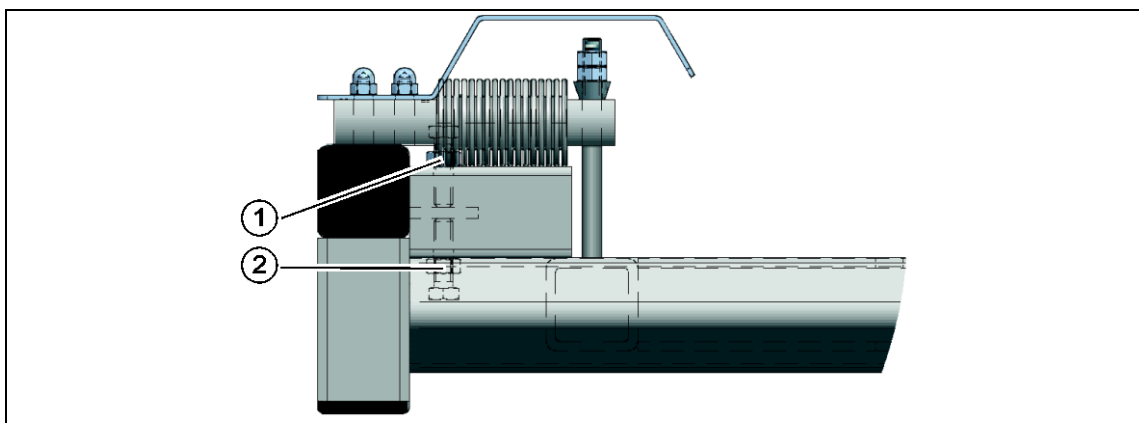

Fig. 9: Remove the transport protection
1. Dismantle the lower transport protection screw (2) (s. Fig. 9, p. 13) and store it for a later transport.
2. Dismantle the upper transport protection screw (1) (s. Fig. 9, p. 13) and store it for a later transport.